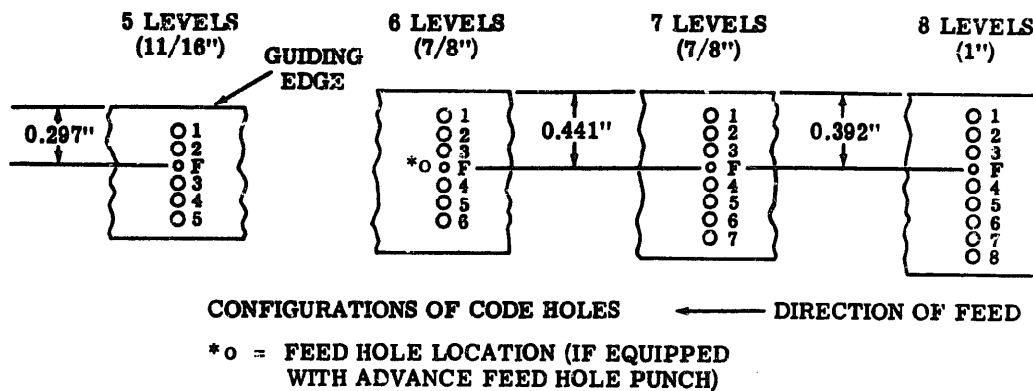

Figure 10 - Binary Permutation Code
2.05 With the appropriate punch block assembly and associated parts selected and installed, the unit can be capable of perforating either 11/16 inch, 7/8 inch, or 1 inch tape (Figure 10). Tape guide channels can be provided to align any of these tape widths.